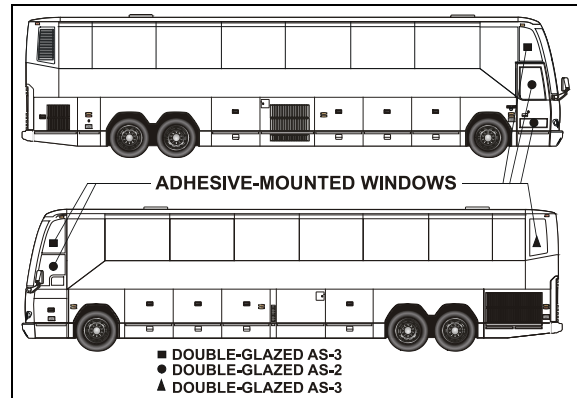

FIGURE 43: ADHESIVE-MOUNTED WINDOWS
These windows are located in the vehicle's front and rear caps (Figure 43).
2. Pull down on both release latches simultaneously and rotate the sash inwards approximately 10 degrees.(Figure 43)